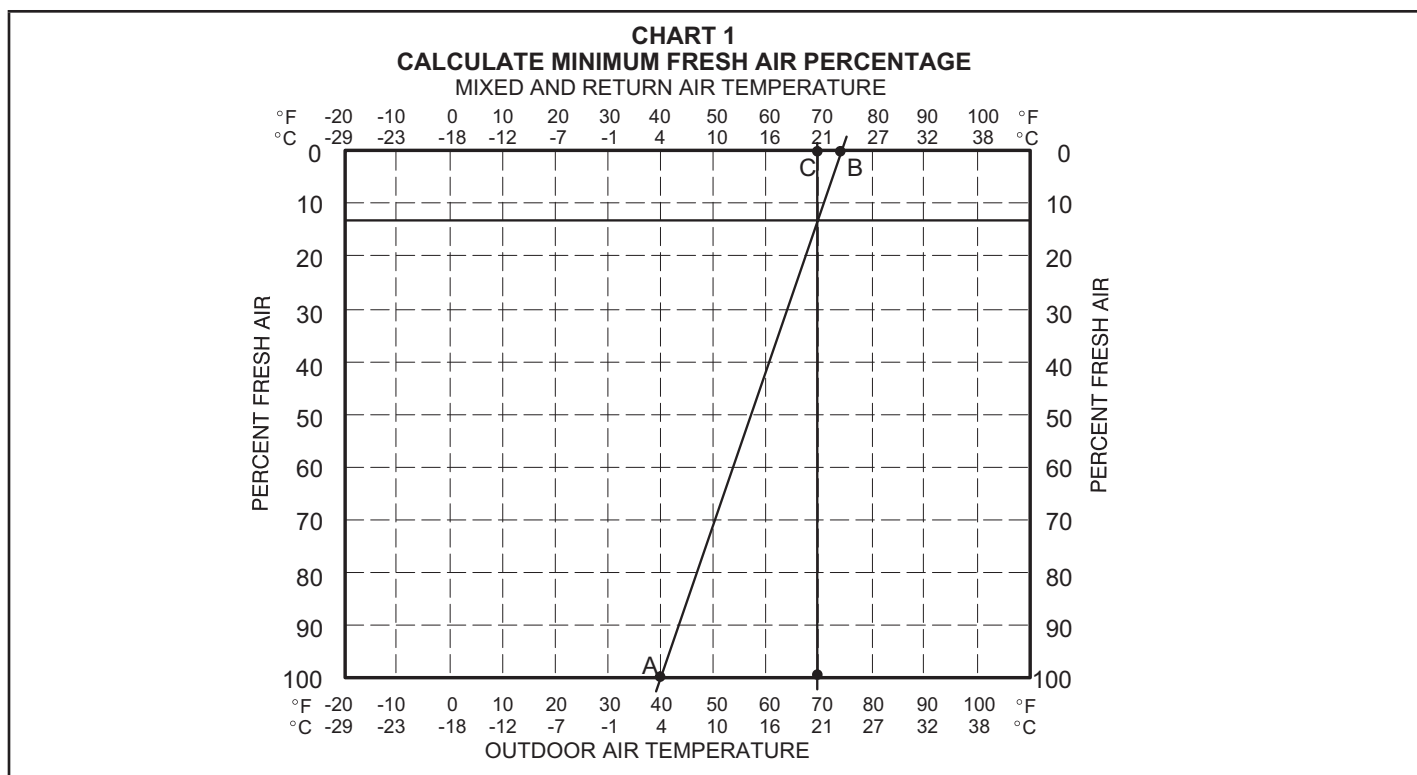

FIGURE 34
- 4 - Measure return air temperature. Mark that point on the top line of chart 1 FIGURE 34 and label the point "B" (74F, 23C shown).